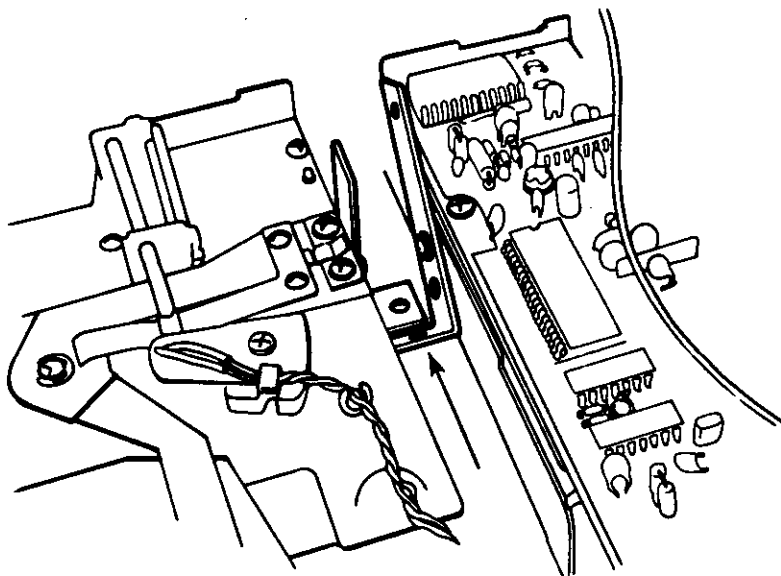

**Figure 3-4B: MD II - Revision B and C Chassis - Drive Removal**
- a. If removing the A drive, remove the two screws on the support bracket (see Figure 3-4B).